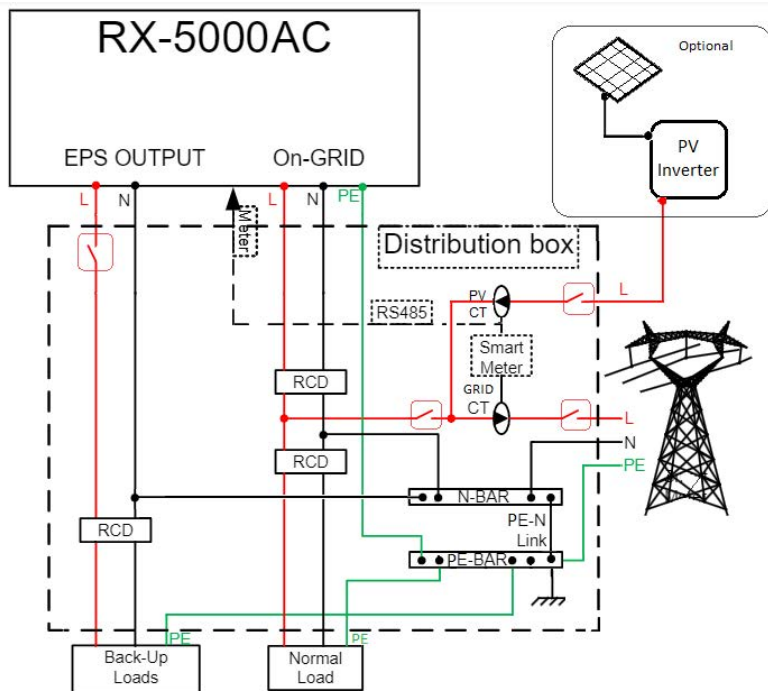

Figure 5.7.1 - RX-5000AC 240V electrical connection with EPS
1. If you need to use both the grid and backup power functions, refer to Figure 5.7.1 for connection details.